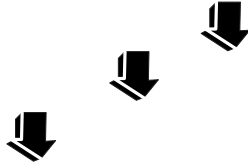

FIGURE B-6 Replacing the Mid Baffle
2. **Replace the mid baffle with the slide retainer attached (see FIGURE B-6).**